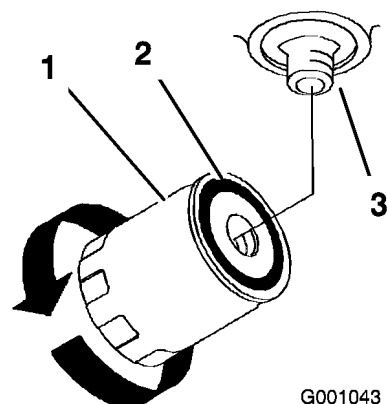

Figure 57
4. Apply a thin coat hydro fluid to the rubber gasket on the replacement filter (Figure 57).
6. Fill the hydraulic tank with hydraulic fluid until the fluid overflows the filter and then turn the oil filter clockwise until the rubber gasket contacts the filter adapter, then tighten the filter an additional 1/2 turn (Figure 57).